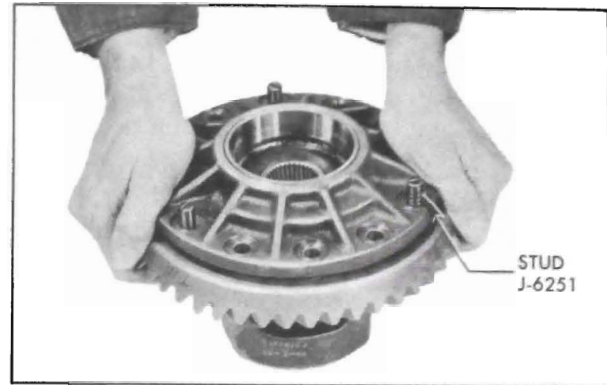

Figure 6-31—Installing Ring Gear on Differential Case
4. After making sure that mating surfaces of case and ring gear are clean and free of burrs, bolt ring gear to case using three Studs J-6251 to align parts. See figure 6-31. If same